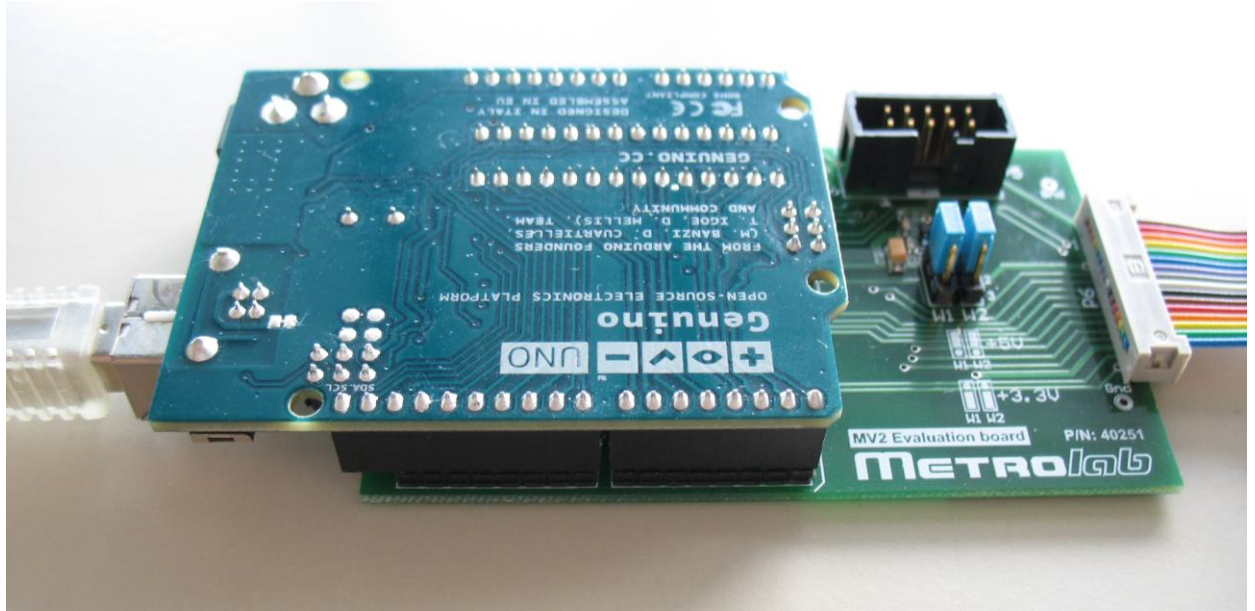

Figure 20. Arduino/Genuino UNO connected to MagVector MV2 test board.
As shown in Figure 20, the Arduino UNO's connectors mate exactly with those on the test board: the Arduino UNO Digital headers (IOL and IOH) connect to P1 and P2, respectively, on the test board; the Arduino UNO Analog (AD) and Power (POWER) headers connect to P3 and P4, respectively, on the test board. Note that the last two pins of the Digital header (IOH-9 – SDA and IOH-10 – SCL) are not connected to the test board.